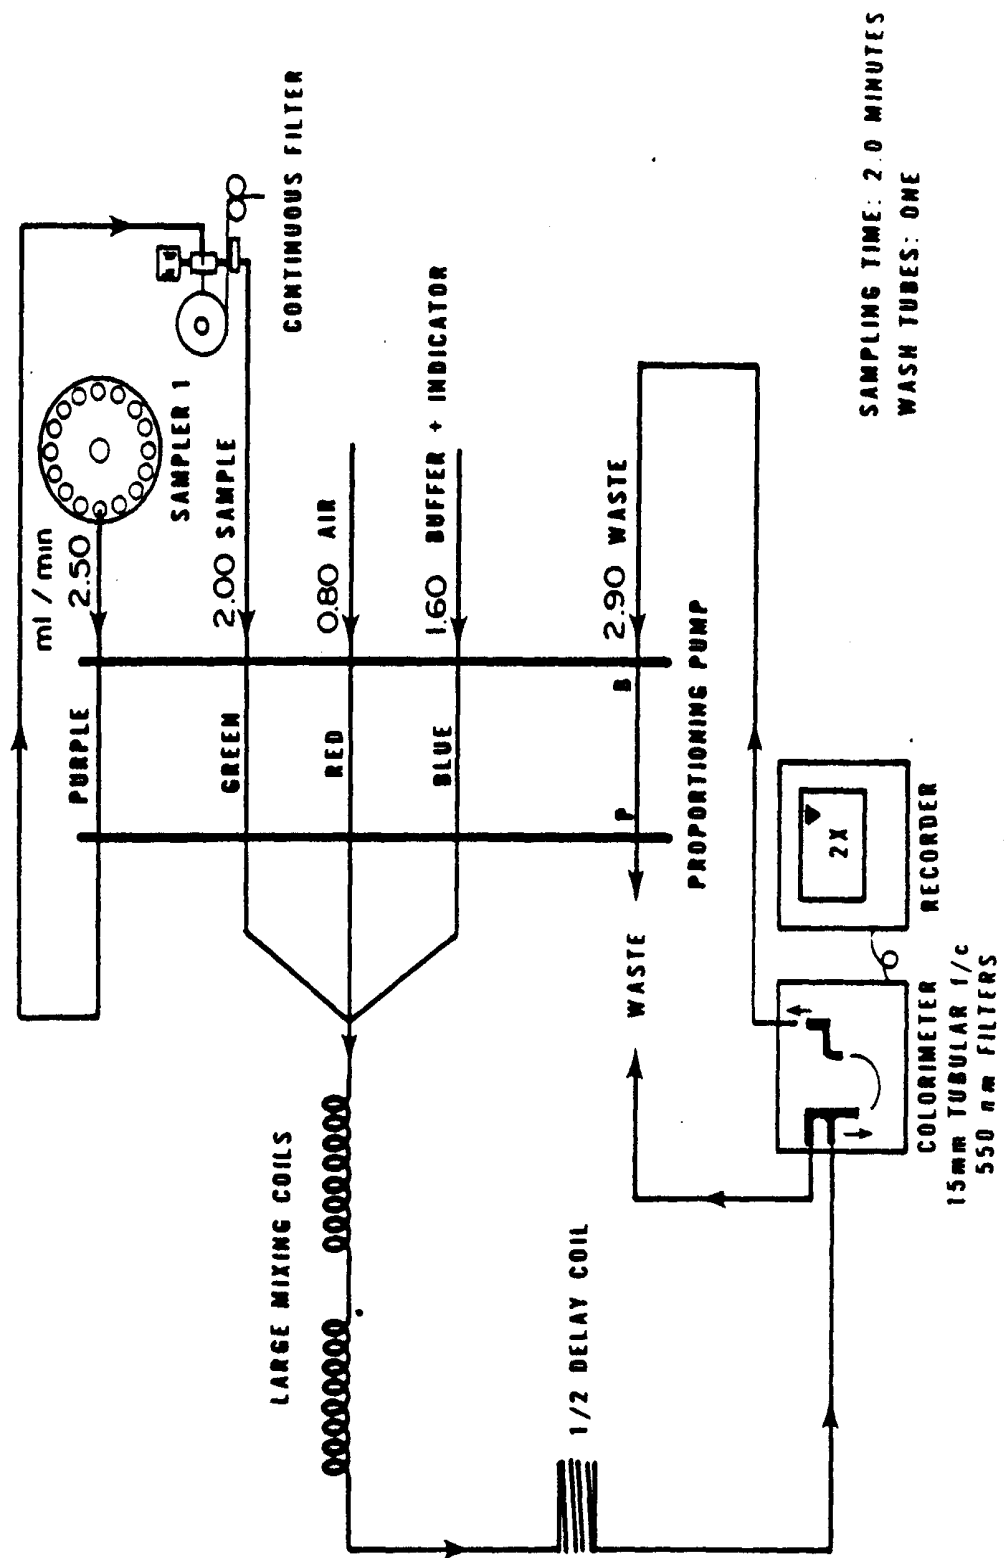

FIGURE 1. ALKALINITY MANIFOLD AA-1
- 7.1 No advance sample preparation is required. Set up manifold as shown in Figure 1.